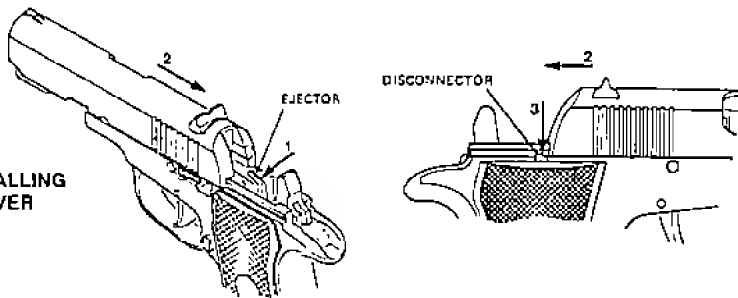

FIGURE 13—INSTALLING SLIDE ON RECEIVER
5. Put the slide and barrel assembly onto the receiver and run the slide onto the receiver rails; See Figure 13.